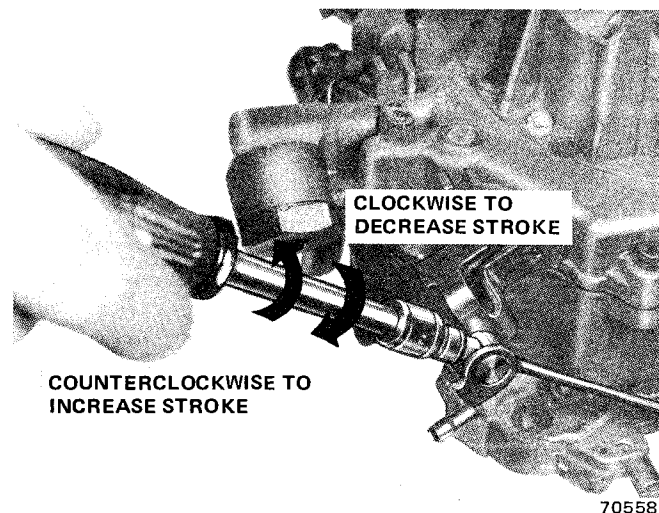

Fig. 1J-115 Adjusting Metering Rod Carrier Stroke
(1) Depress metering rod yoke. Using small screwdriver, turn vacuum piston adjusting screw counterclockwise until yoke is seated against vacuum piston cylinder (fig. 1J-116).
(2) Turn metering rod adjusting screws until large diameter of metering rods contact and seat in main jets.
(3) Remove plastic yoke retainer.
(4) Remove metering rod and yoke assembly.